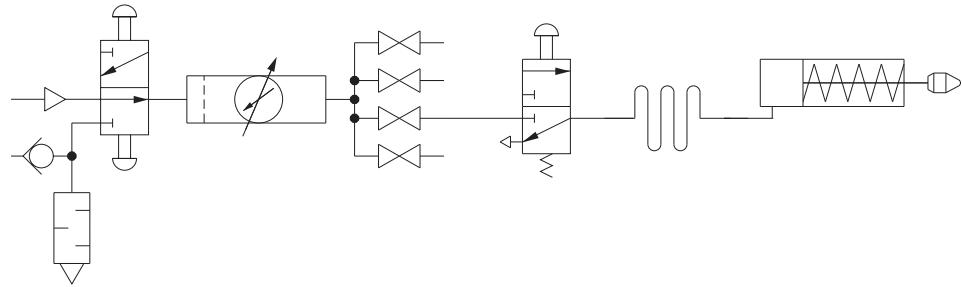

Figure 4-5. Schematic Diagram of a Circuit Using a Long Tubing Line.
- 10. Modify your circuit as shown in Figure 4-5.